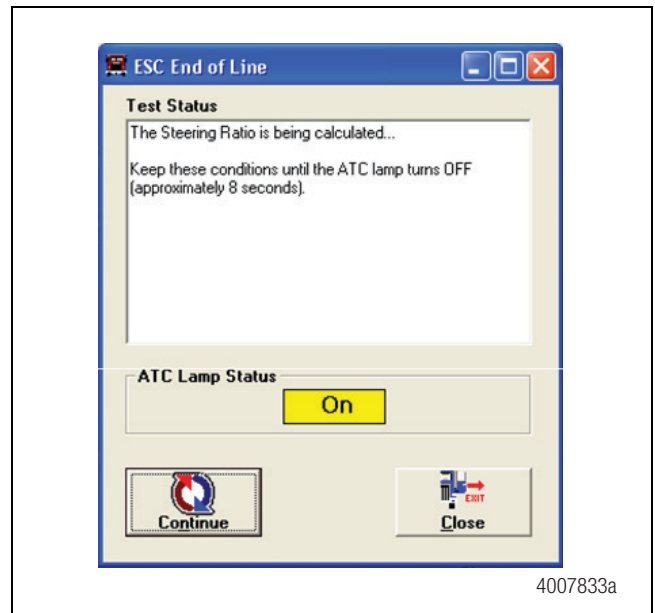
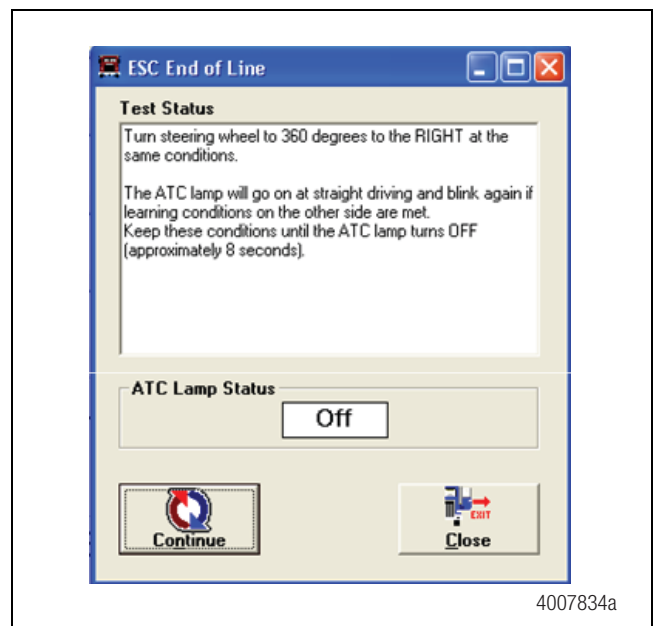

Figure 23
Figure 24
- Read the message box carefully. The ATC/RSC/ESC lamp will start blinking when the required conditions are met. Keep driving until the lamp turns off. Figure 23.
- This message will appear after the steering ratio has been calculated. Figure 23. Stop the vehicle. Read the message box carefully and follow the instructions. Turn the steering wheel 360 degrees in the opposite direction from being centered. Repeat the driving conditions. Again, the ATC/RSC/ESC lamp will start blinking when the required conditions are met. Keep driving until the light turns off. Figure 24.